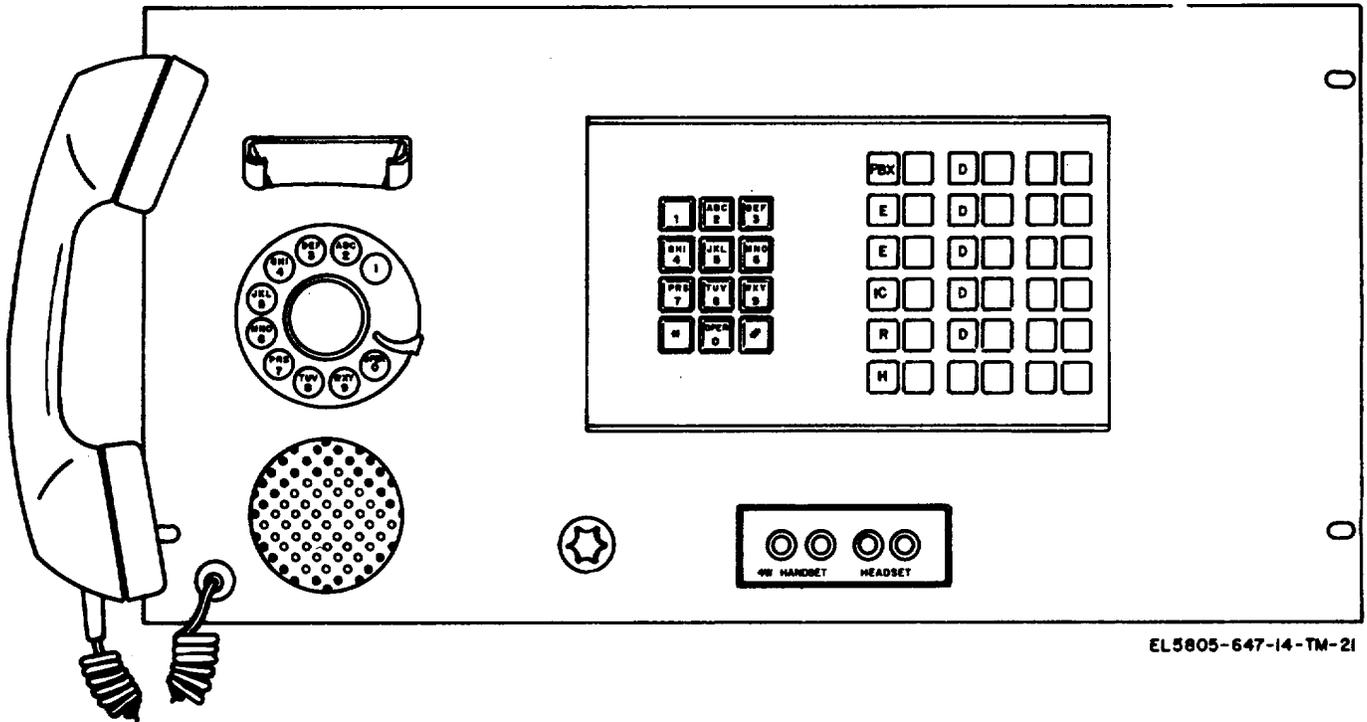

Figure 3-3. Link orderwire Unit TA-925/FSC (front view).
b. Link Orderwire Unit (fig. 3-3).